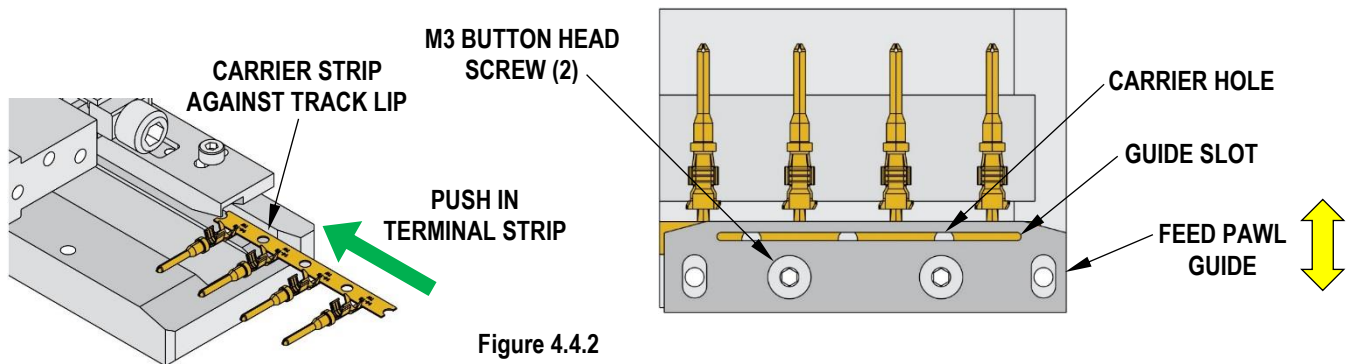

Figure 4.4.2
- **Feed Pawl Guide:** The slot in the feed pawl guide is aligned to pilot holes in the terminal carrier strip and provides feed pawl guidance. See Figure 4.4.2.
5. Look straight down into the feed pawl guide slot. The slot must be centered to the centerlines of the pilot holes in the terminal carrier strip. See Figure 4.4.2.